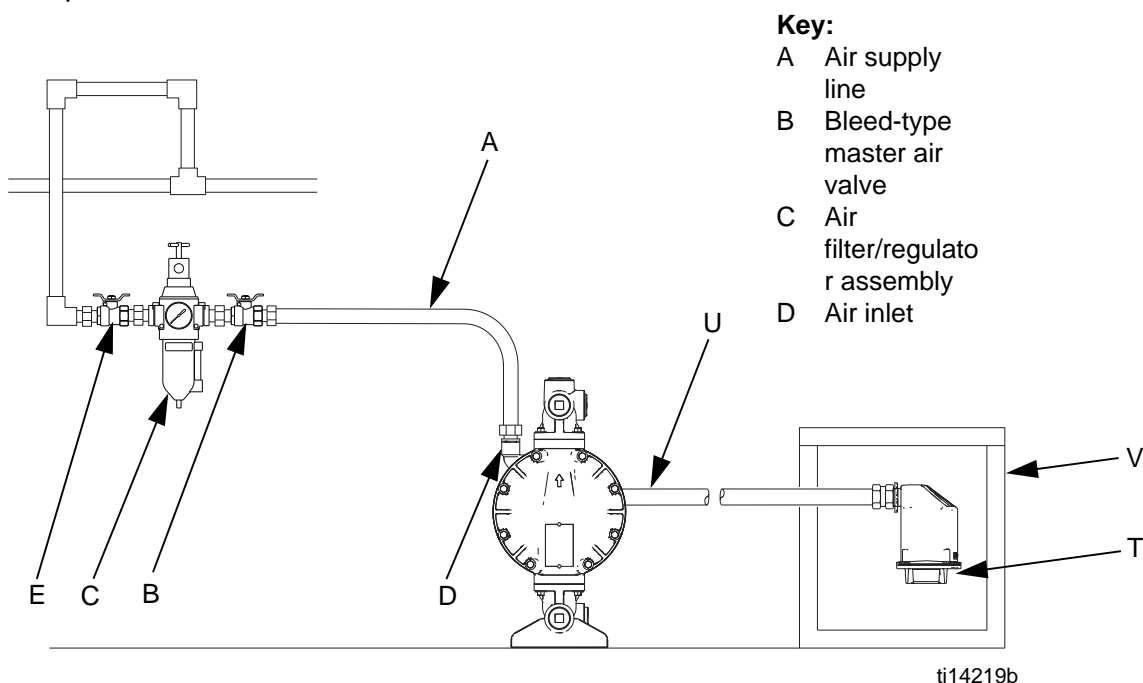

FIG. 3. Vent exhaust air
1. Connect an air supply line to the pump (A, FIG. 3, page 11).
2. Insert 5/32 OD tubing into the push-to-connect fitting on each pilot valve (113).